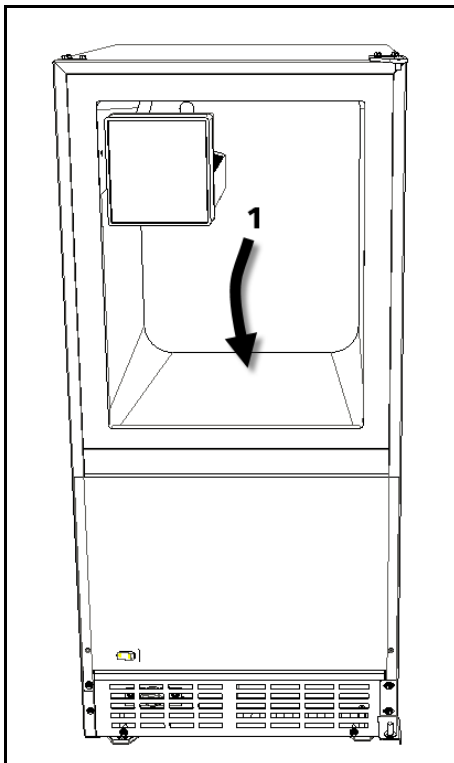

Figure 4
The drain pan was not designed to capture the water created when manually defrosting. To prevent water from overflowing the drain pan, place towels or other absorbent materials on the bottom of the unit (Figure 4, 1), before defrosting.
3. Place a towel or other absorbent material on bottom of unit (**Figure 4, 1**).